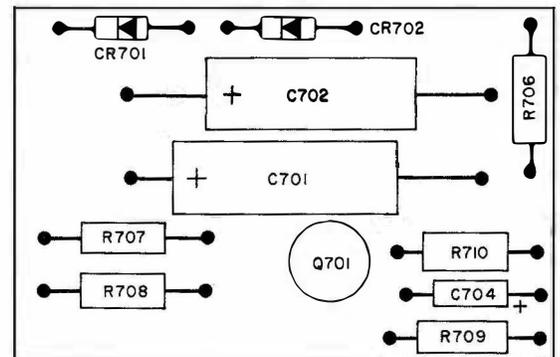

Figure 5-18. Meter Circuit Board Assembly, Location of Components
(9) Power supply board assembly, figure 5-18.